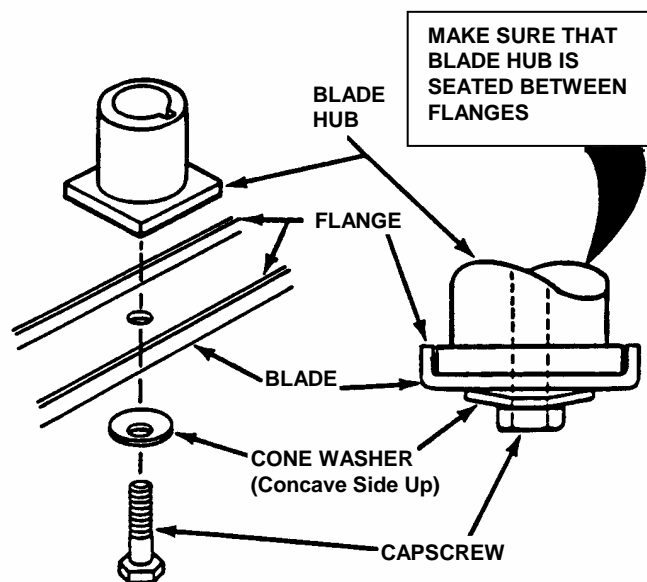

FIGURE 4.3
3. Remove blade. See Figure 4.3.
- Reinstall blade. See Figure 4.3. Check torque of blade retaining cap screw. Recommended torque should be 30 to 40 ft. lbs.